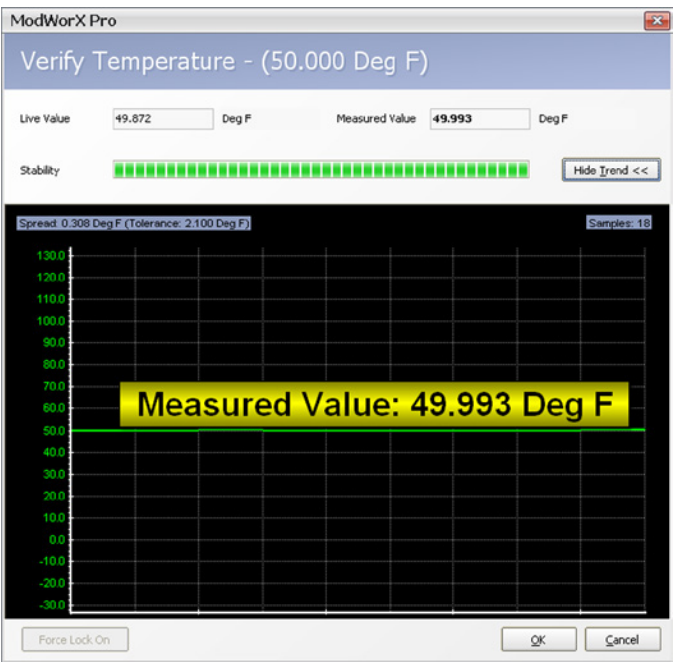

Figure 8.22
8. When the Scanner reads 10 consecutive readings (within the tolerance based on the range of the sensor), it will "lock on" to that data set and display a "measured value" (Figure 8.22, page 120).